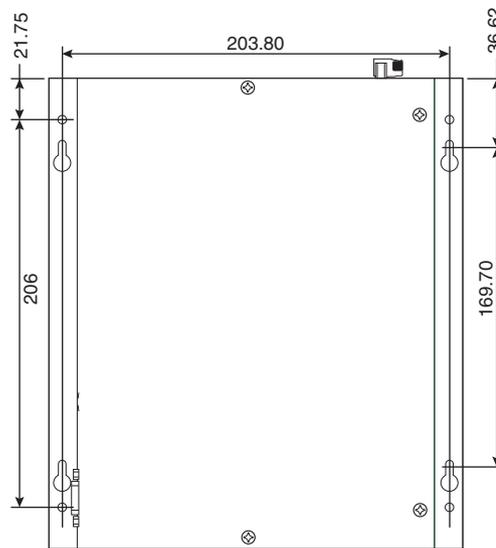

Figure 4-3 Template for wall mounting
- Mount the BPC 9102S using the keyhole-shaped mounting holes in a vertical mounting position (see Figure 4-3 on page 67).
- Use the BPC 9102S as a template and mark the positions of the mounting holes on the mounting surface. Alternatively, use a true-to-scale version of the template in Figure 4-3.
- Hang the BPC 9102S onto the fastening material on the mounting surface in accordance with the orientation in Figure 4-3.